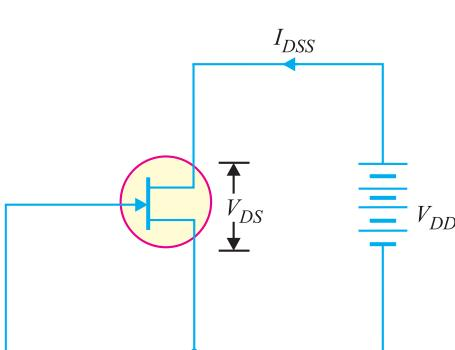
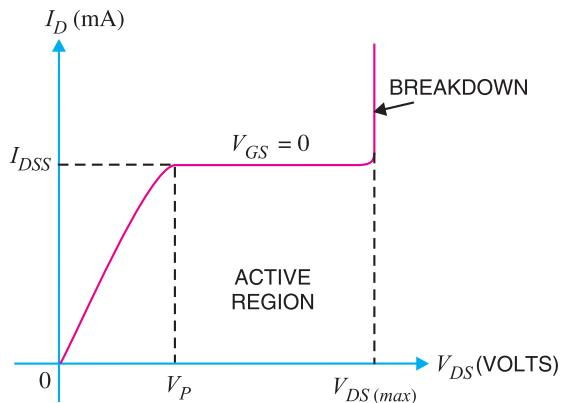

Fig. 19.9
Fig. 19.10
Fig 19.9 shows the *JFET* circuit with $V_{GS} = 0$ i.e., source shorted-circuited to gate. This is normally called shorted-gate condition. Fig. 19.10 shows the graph between I_D and V_{DS} for the shorted gate condition. The drain current rises rapidly at first and then levels off at pinch off voltage V_p . The drain current has now reached the maximum value I_{DSS} . When V_{DS} is increased beyond V_p , the depletion layers expand at the top of the channel. The channel now acts as a current limiter and **holds drain current constant at I_{DSS} .
- (ii) There is a maximum drain voltage [$V_{DS(max)}$] that can be applied to a *JFET*. If the drain voltage exceeds $V_{DS(max)}$, *JFET* would breakdown as shown in Fig. 19.10.